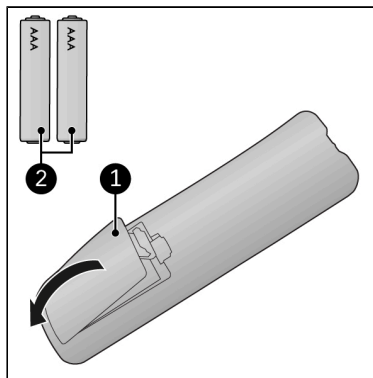

Figure 34.
1. Remove the battery cover (Figure 34, pos. 1).
2. Insert two batteries (AAA 1.5 V) (Figure 34, pos. 2) as indicated in the battery compartment. Make sure to insert the batteries correctly.